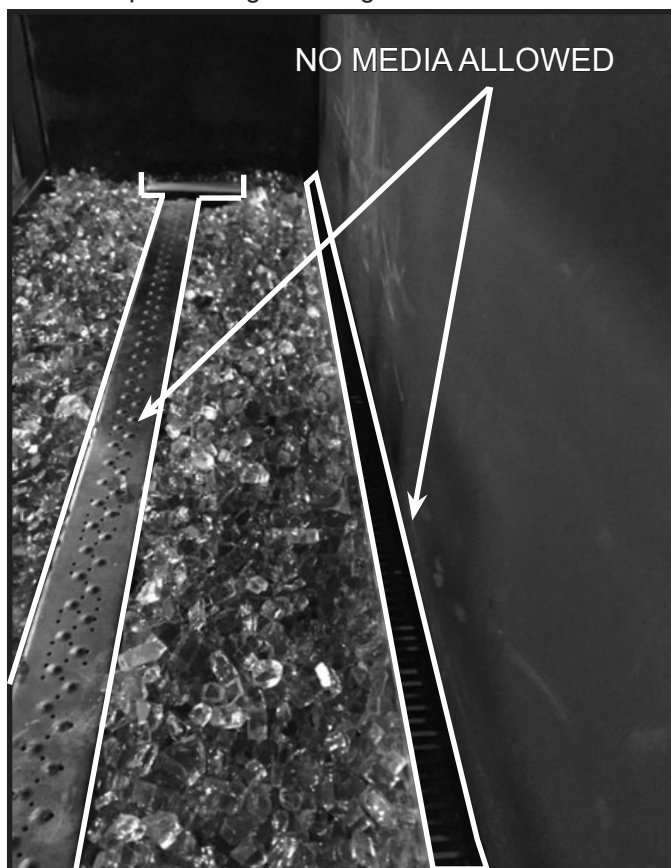

Figure 5. Media Installed - Side View
2. Carefully spread media over media tray everywhere except on the burner and pilot shield. Save 1/2 bag of media for use in Step 3 of the Stones Installation section of this instruction. DO NOT allow media to fall between the media tray and the back of the firebox. Remove any fallen media before proceeding. See Figure 2 and Figure 5.
4. **DO NOT** allow media to fall between the media tray and the back of the firebox. Remove any fallen media before proceeding. See Figure 5.